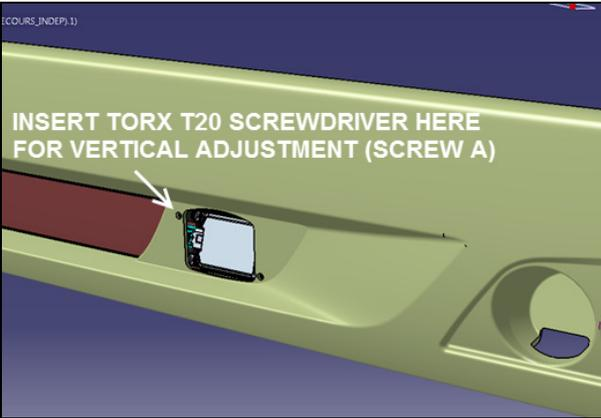

FIG.11
17. Screw **A** serves as vertical adjustment screw. Use a Torx T-20 screwdriver to turn by hand the top-left adjustment screw (screw A). During the adjustment, observe the digital display on the inclinometer and turn the vertical alignment screw **A** clockwise or counterclockwise depending on the vertical direction (up or down) needed, **until the reading is $90.0^{\circ} \pm 0.2^{\circ}$** . (see figures 11 & 12).